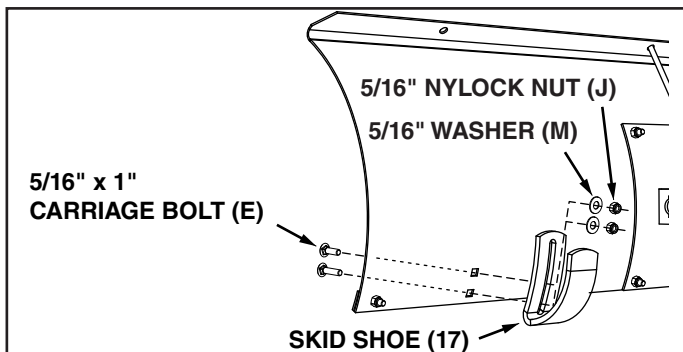

FIGURE 12
- Attach the skid shoes (17) to the blade using two 5/16" x 5/16" x 1" carriage bolts (E), 5/16" washers (M) and 5/16" nylock nuts (J). Tighten the bolts with the skid shoes resting on the ground. See figure 12.
2. The blade shoes at the ends of blade may be raised for close work on smooth surfaces or lowered to raise the blade to work on rough or uneven areas. Make sure both shoes are set evenly and that the nuts are tightened securely. Refer to figure 12 on page 7.